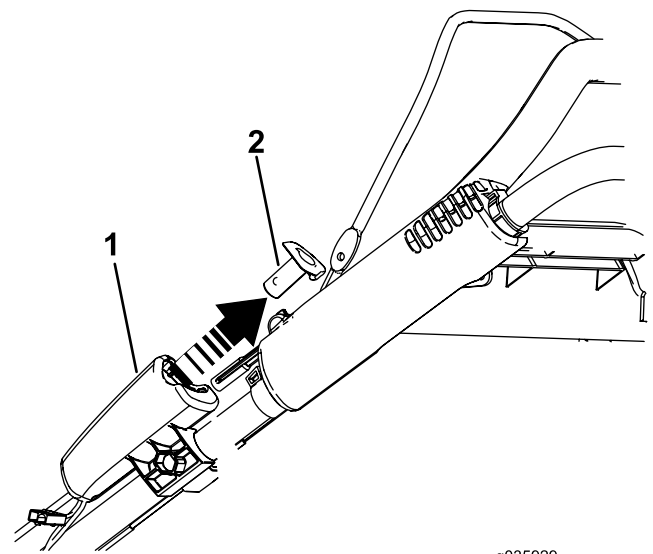

Figure 21
1. For electric-start models only, remove the electric-start button; refer Figure 21.